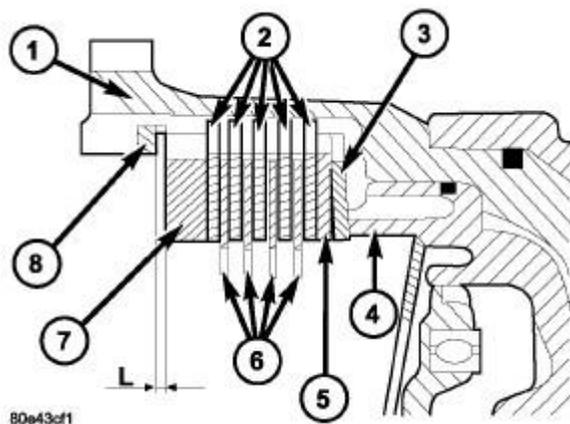

Fig. 126: B2 Clutch Stack-Up
12. Using a feeler gauge, determine the play "L" at three points between the snap-ring (8) and outer multiple-disc (7). Refer to **Fig. 126**.
14. Adjust with snap-ring (8), if necessary. Snap-rings are available in thicknesses of 2.9 mm (0.114 in.), 3.2 mm (0.126 in.), 3.5 mm (0.138 in.), 3.8 mm (0.150 in.), and 4.1 mm (0.162 in.).